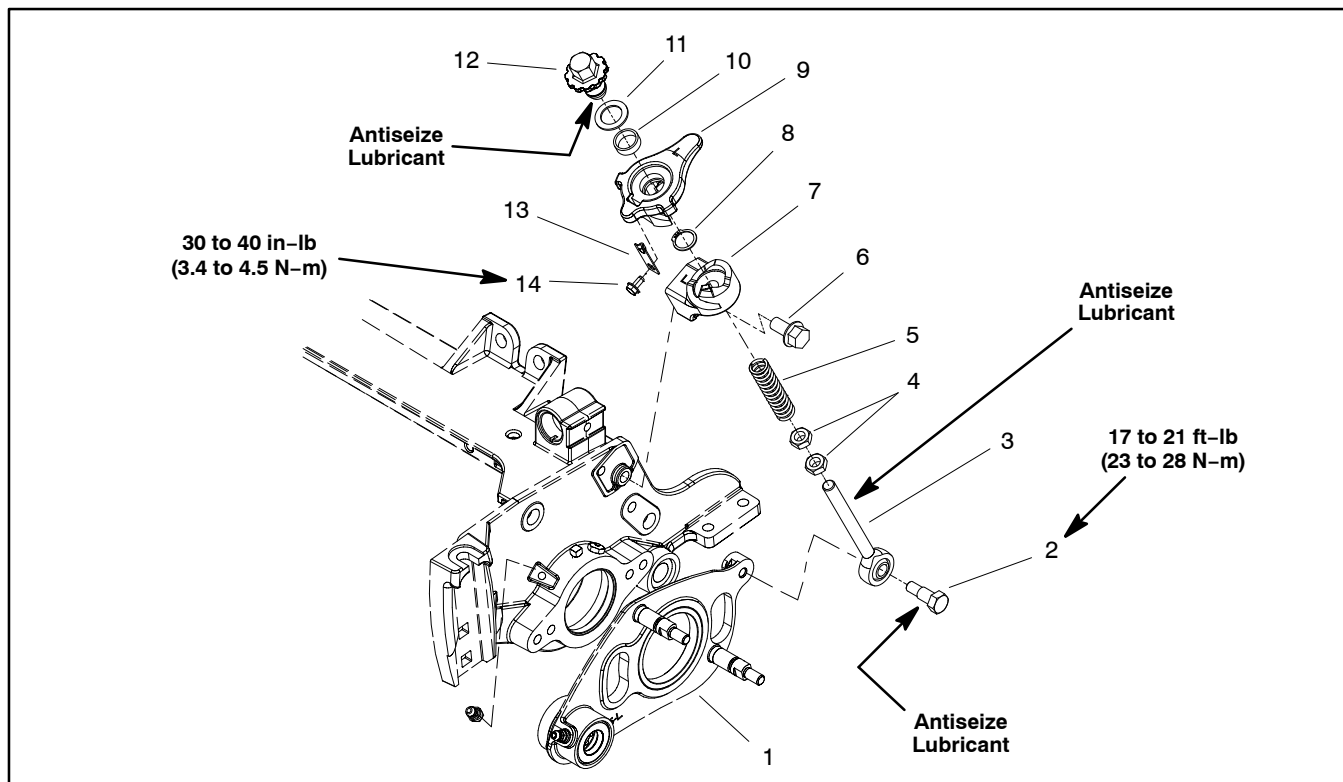

Figure 17
**NOTE:** The groomer reel drive is located on the opposite side of the cutting unit from the cutting reel hydraulic motor. Figure 17 shows components used when the groomer reel drive is on the left side of the cutting unit.
### Disassembly (Fig. 17)
2. Disassemble height adjuster using Figure 17 as a guide.
### Assembly (Fig. 17)
1. Assemble height adjuster using Figure 17 as a guide noting the following items:
A. If bushing (item 10) was removed from upper ramp, press new bushing into housing fully to the shoulder in the bore.
B. If jam nuts (item 4) were removed from ball joint rod, apply antiseize lubricant to threads of rod where jam nuts will be positioned. Install jam nuts so that distance from end of ball joint rod to top of upper nut is from 3.060" to 3.180" (7.8 to 8.0 cm).
C. Apply antiseize lubricant to threads of groomer adjuster (item 12) before installing it on threads of ball joint rod.
D. If detent spring (item 13) was removed, secure detent spring to upper ramp with washer head screw. Torque screw from **30 to 40 in-lb (3.4 to 4.5 N-m)**.
2. Secure ball joint rod to groomer plate with shoulder bolt (item 2). Torque shoulder bolt from **17 to 21 ft-lb (23 to 28 N-m)**.